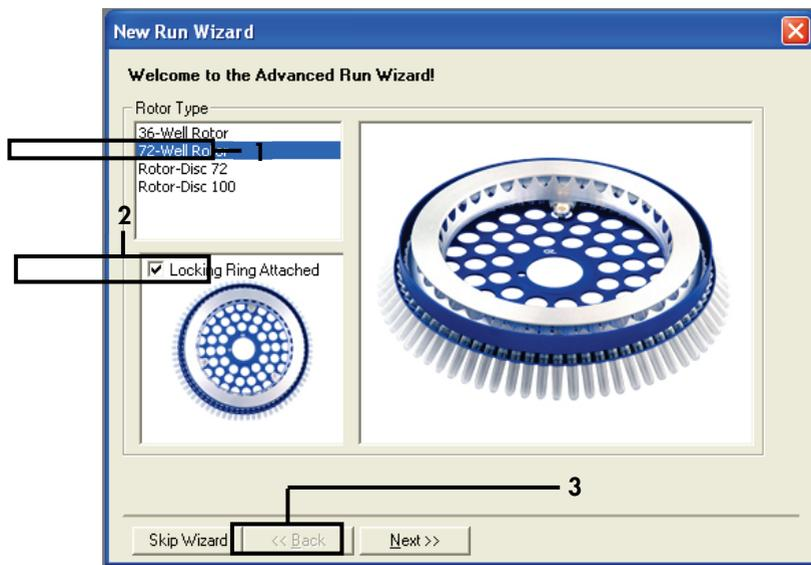

Figure 33. The "New Run Wizard" dialog box and welcome screen. 1 = "Rotor type"; 2 = "Locking Ring Attached" box; 3 = "Next."
2. Ensure that the correct rotor is selected, and check the **Locking Ring Attached** box. Click **Next** (Figure 33).